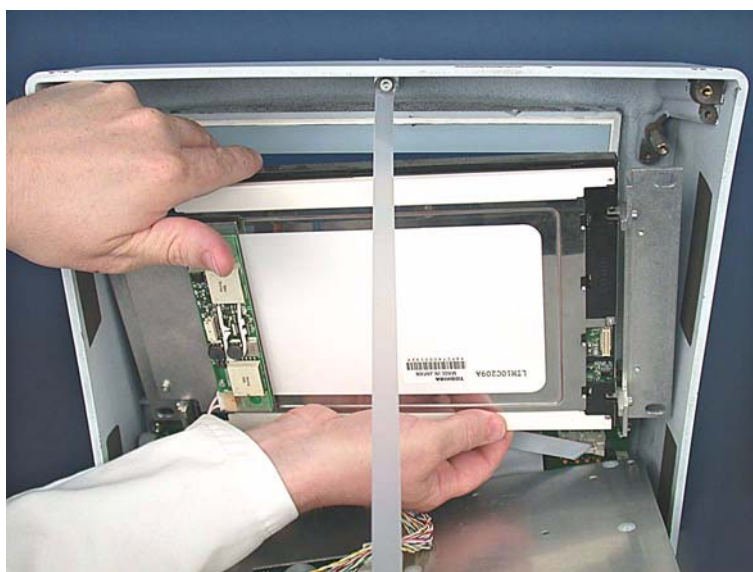

Figure 11-141. Lifting out the complete LCD assembly
8. Lift out the complete assembly. (Figure 11-141.)